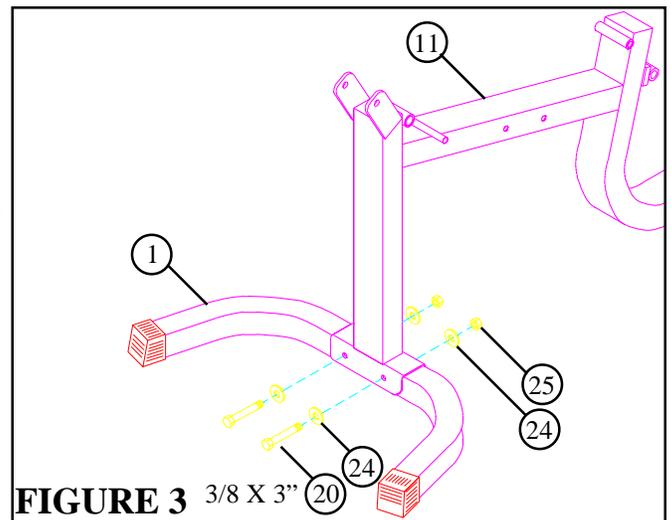

FIGURE 3
STEP 4: Securely assemble FRONT BASE SUPPORT (1) to LEG FRAME (11) using two 3/8 X 3" BOLTS (20), four 3/8" FLAT WASHERS (24), and two 3/8" NYLOCK NUTS (25). See FIGURE 3.